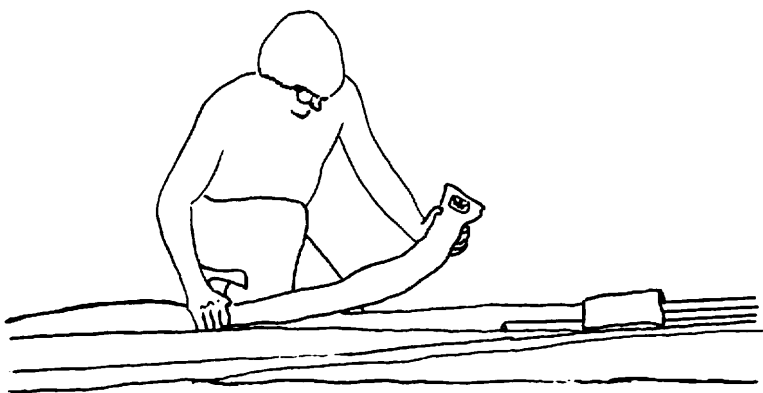

Fig 74
- 14) Place the battens together carefully and stow them in the batten bag. With the curved end towards the front, stow the battens between the rear leading edges of the glider. (Fig 74)